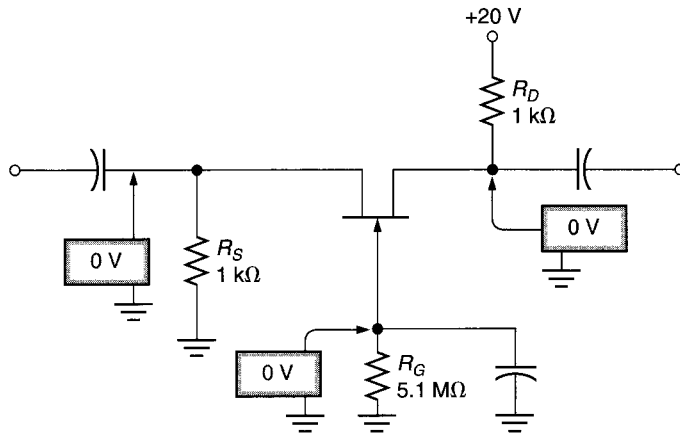

FIGURE 12.74
48. The circuit shown in Figure 12.74 has the dc voltages shown. Discuss the possible causes of the problem.